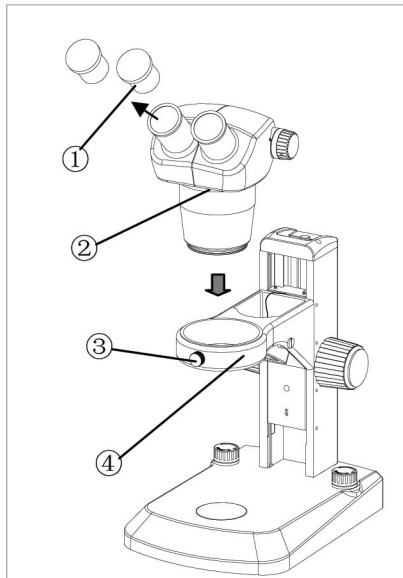
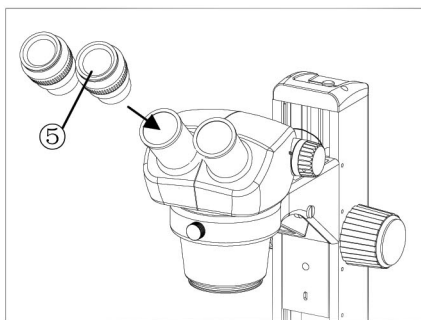
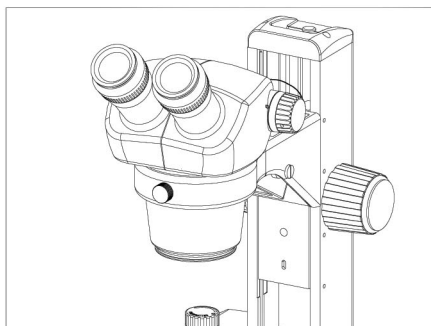

Fig. 1
Fig. 2
Fig. 3
Mounting the Binocular Head (Fig.1)
Mounting the Eyepieces (Fig.1, Fig.2, Fig.3)
Remove the eyepiece dust caps ① (Fig. 1) and gently insert the two adjustable eyepieces ⑤ (Fig. 2) into the eyepiece sleeves until they stop, as shown in Fig.3.